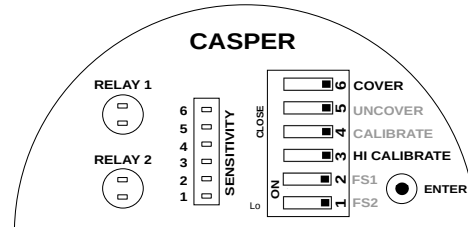

Figure 24: Saving Cover Delay for Relay 2
- Delay is entered, but not saved. To save and test the cover delay, set the COVER and HI CALIBRATE switch back to OPEN position as shown in Figure 24.